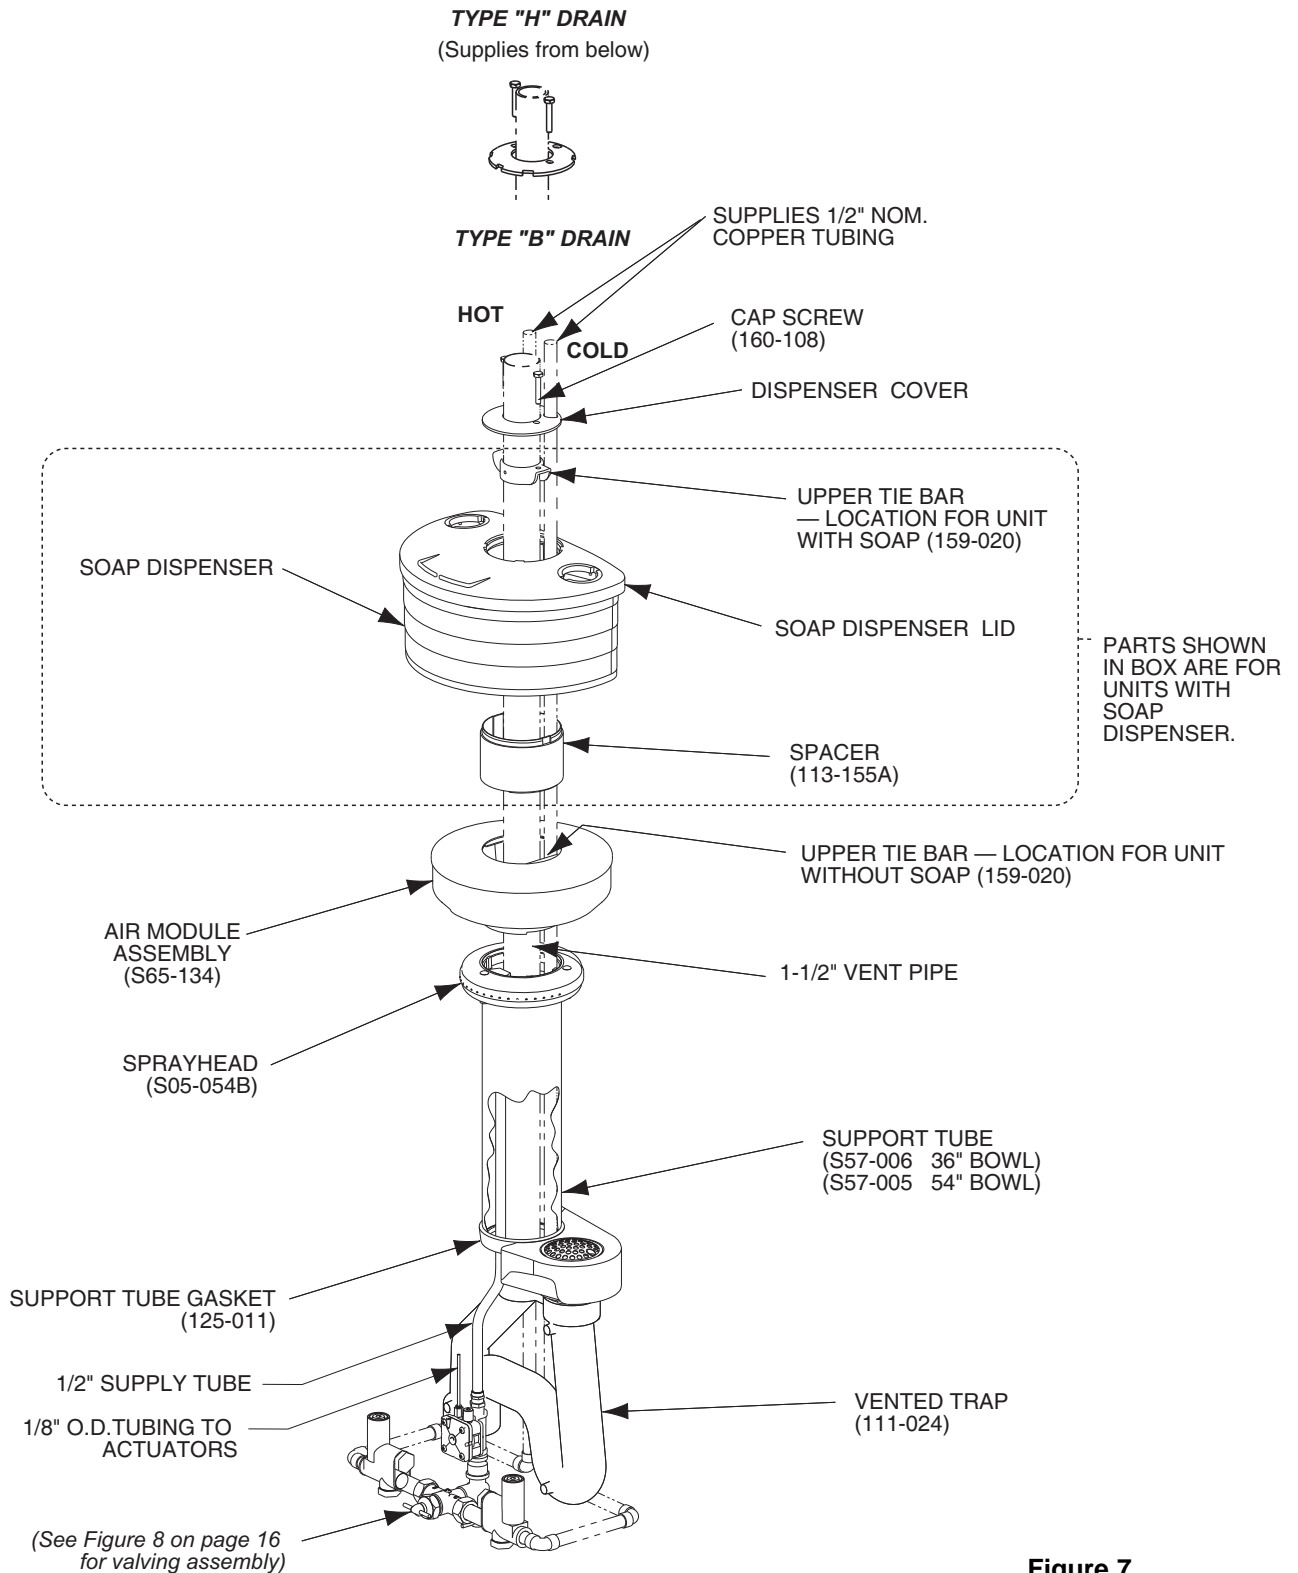

Figure 7
1. Install hemmed end (not sharp end) of support tube (welded seam toward wall) with gasket onto bowl as shown in Figure 7 on Page 15.
3. Place sprayhead with 1/2" tubing onto support tube as shown in Figure 7. Run tubing down through support tube. *Make sure spray holes point away from the wall.*
- 8a. **FOR UNITS WITH SOAP OPTION:** Place the spacer, soap dispenser and cover in position on top of air module (see Figure 7). Slide tie bar over 1-1/2" vent pipe 1/2" below top of soap dispenser lid and secure with set screws (tie bar must be parallel to wall). Slide the dispenser cover over 1-1/2" vent pipe and secure with 2 screws included with tie bar.